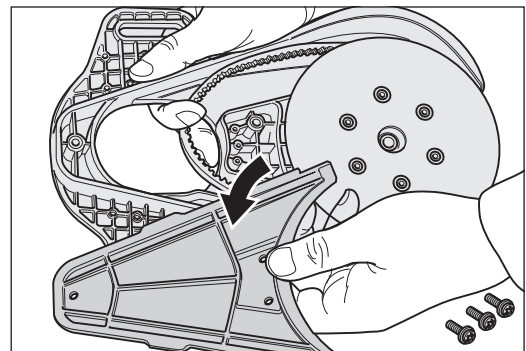

Fig. 36 Remove the attachment cover from the attachment.
- 8 Use the universal spanner to undo the fixing screws of the attachment cover and remove this from the attachment (Fig. 36).